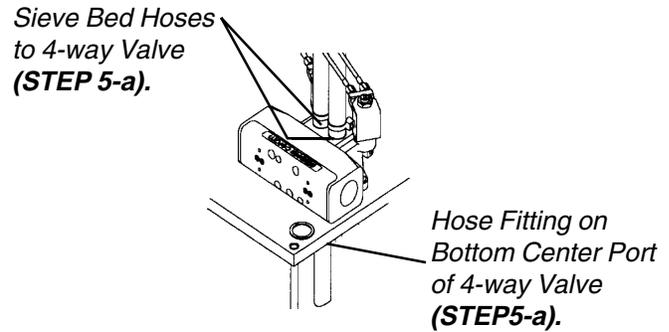

FIGURE 1 - 4-WAY VALVE HOSES
- a) The two (2) sieve bed hoses at the top of 4-way Valve and hose to bottom center port on 4-way Valve (**FIGURE 1**).